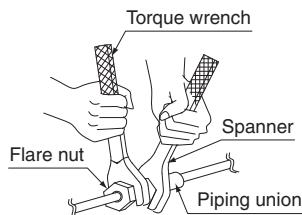

Fig. 4
- When connecting or disconnecting piping to or from the unit, be sure to use two spanners and two torque wrenches. (Refer to Fig. 4)